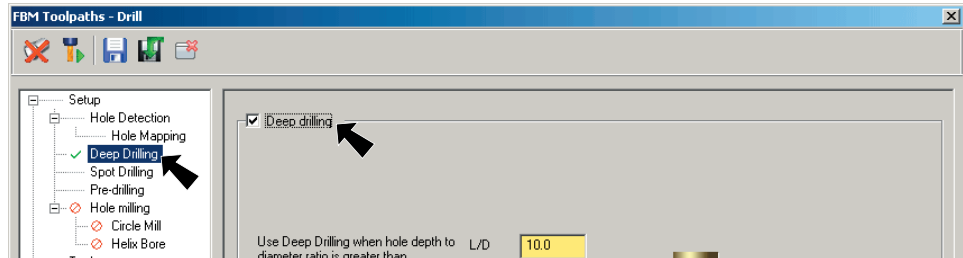

Fig. 6
Step 3. Select **Deep Drilling** from the tree control and check **Deep drilling** check box, Fig. 6.